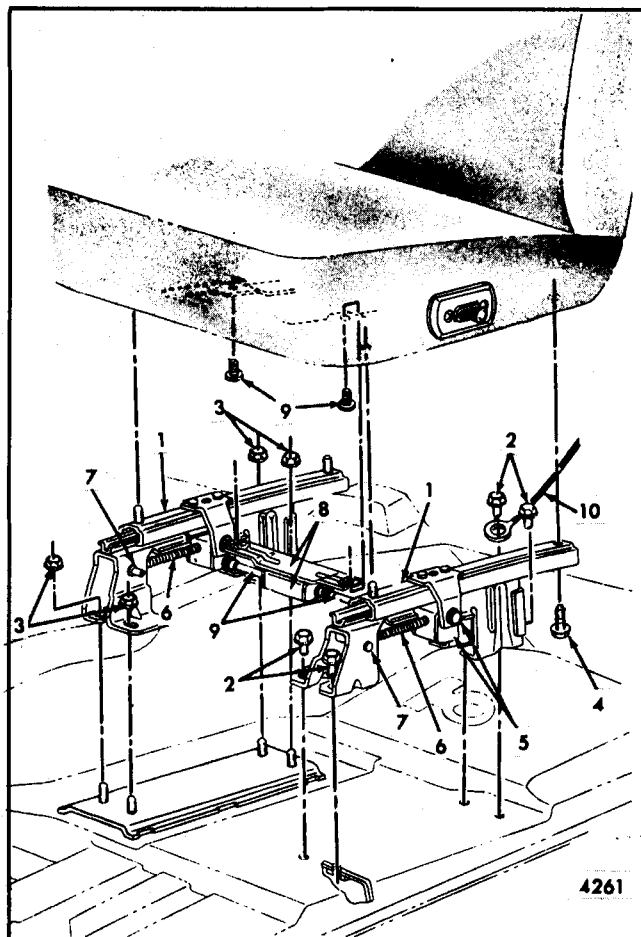

Fig. 14-9 Power Operated Horizontal Seat Adjusters - 60/40 Drivers Seat
1. Remove front seat assembly as previously described and place upside-down on a clean, protected surface. On 60-40 drivers seat remove one seat adjuster (see Fig. 14-9).